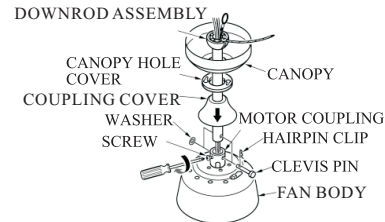

FIG.2
2. Insert the down rod through the center opening in the canopy, coupling cover and route the motor leads through the hanger ball/downrod assembly. Align the clevis pin holes in the downrod with the holes in the motor coupling. The clevis pin must pass through the holes in the motor coupling and the downrod. Place the washer onto the clevis pin and install the hairpin clip making sure to push straight leg of the hairpin clip through the hole near hanger ball to make sure the clevis pin is properly installed (See fig.2)
4. CONNECTING THE RECEIVER (FIG.2)